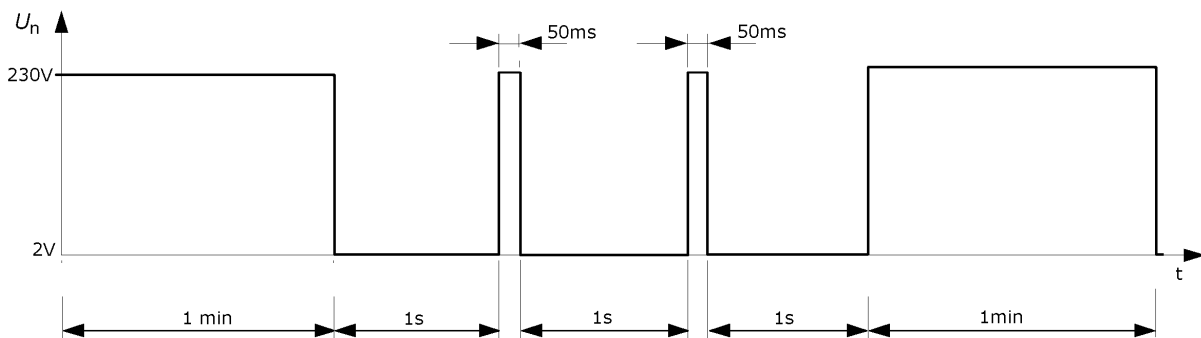

Fig.1.2. Voltage interruptions of  $\Delta U = 100\%$ , 1s
Configuration of the procedure for a *voltage interruptions of  $\Delta U = 100\%$ , 1s* test is presented in Fig.1.2. This procedure contains from 7 points:
- set the *Change setting's Duration* time (pos.4) to 60 s (seconds),
- add configured point to the procedure (pos.5),
- repeat points from b) to d) to add rest of test points (according to Fig.1.2) – change will be required only in:
- save the procedure file (pos.6).